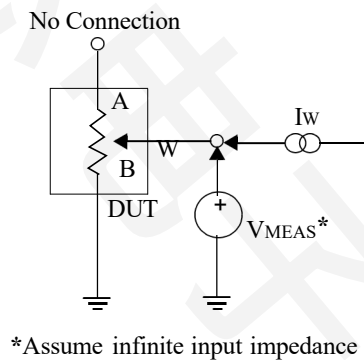

FIGURE 2-26 Resistor Position Non-Linearity Error Test Circuit (Rheostat operation DNL, INL).
2. Rheostat position non-linearity R-INL is the deviation from an ideal value measured between the maximum resistance and the minimum resistance wiper positions. R-DNL measures the relative step change from the ideal between successive tap positions. I_W = 50 μA for V_{DD} = 3V and I_W = 400 μA for V_{DD} = 5V for 10 kΩ version. See Figure 2-26 for test circuit.